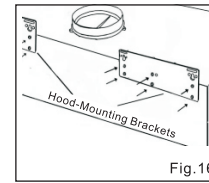

Fig.16
- Apply with eight (3/16" x 3/8" ) screws (included) to fix the two hood-mounting brackets (included) to the back of the hood. (Fig.16 )